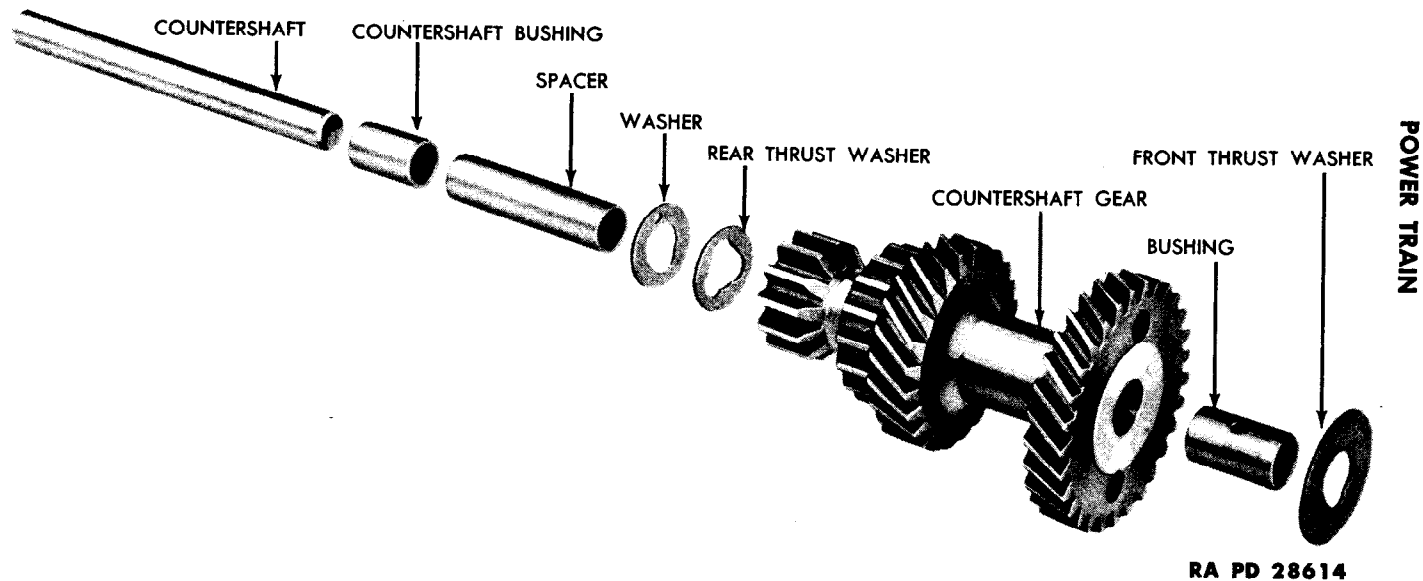

Figure 14 – Countershaft Gear Assembly – Exploded View
h. **Disassemble Countershaft Gear (fig. 14).** Remove the two bushings and spacer from the countershaft gear.
(6) **COUNTERSHAFT GEAR** (fig. 14). Replace excessively worn gears, and gears with broken or chipped teeth, or with pitted or discolored bearing surface due to overheating. Measure the front and rear bearing surfaces of the countershaft gear. If more than 0.7625 inch on either end, replace.
(8) **IDLE GEAR SHAFT AND COUNTERSHAFT** (figs. 14 and 15). Ridged, scored, or excessively worn, shafts must be replaced. An idle gear shaft measuring under 0.6185 inch or countershaft measuring under 0.7490 inch must be replaced.
(12) **COUNTERSHAFT THRUST WASHERS** (fig. 14). Replace excessively worn or ridged thrust washers. Measure each thrust wash-
(13) **COUNTERSHAFT BUSHINGS** (fig. 14). Excessively worn, scored, or ridged countershaft bushings must be replaced. Measure the inside and outside diameter of the bushings. If the outside diameter is less than 0.759 inch, or if the inside diameter is more than 0.6225 inch, the bushings must be replaced.
b. **Install Countershaft Gear** (fig. 14). Dip the countershaft bearings into SAE 90 oil. Slide the spacer into the countershaft gear and install a bushing in each end of the countershaft gear. Coat the front thrust washer, rear thrust washer, and steel washer with a light film of grease to hold them in place while installing the gear. Lay the countershaft gear in the case with the large gear toward the front.